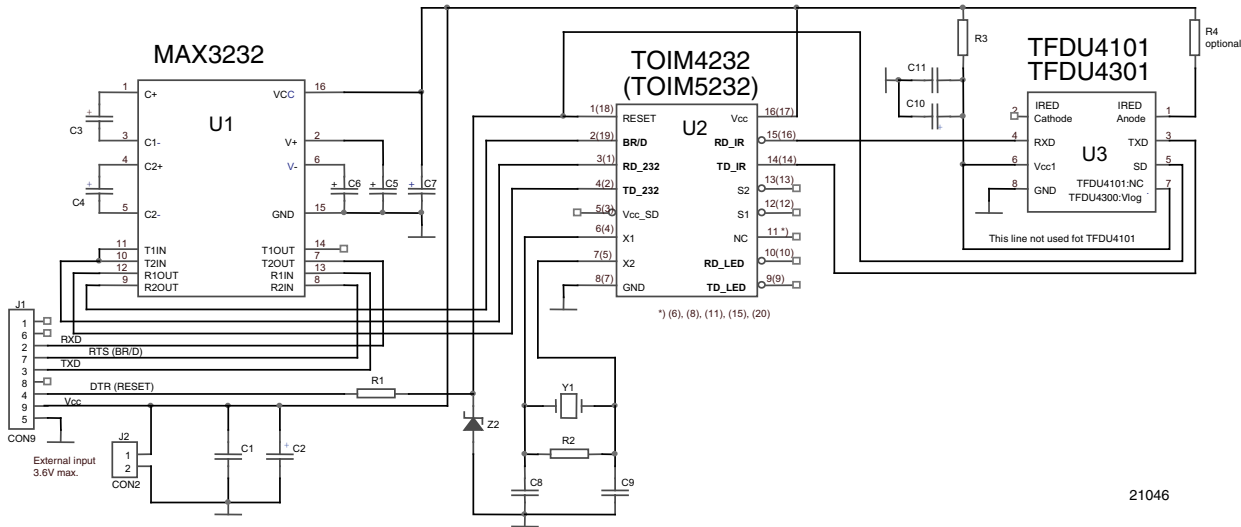
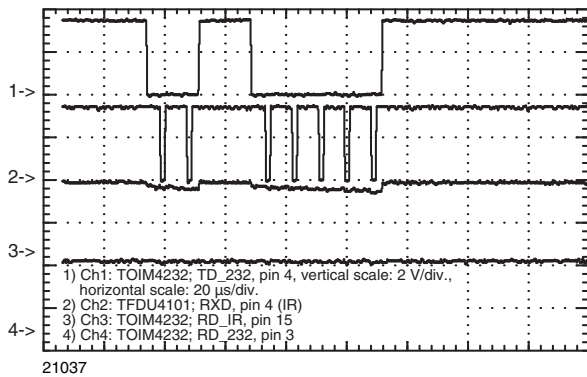

Fig. 1 - Circuit Diagram of the Demo Board
Fig. 11 - Echo-Suppression
Operation and programming of the TOIM4232 and TOIM5232 interface devices are described below. Figure 1 shows the basic circuit design with 3 blocks: the RS232 to 3 V logic level shifter, the encoder/decoder (endec) circuit and the transceiver to build a dongle for RS232 IrDA
Therefore, an add-on to the circuit shown in figure 1 was generated to suppress the echo from the receiver during transmission. This modification is shown in figure 10. During transmission, the signal from the RXD output of the transceiver is just gated by the transmit signal, (see the oscilloscope picture in figure 11).
*) For TOIM5232 pinning, see figure 1.
The oscilloscope diagrams are shown in figure 11. Channel 2 shows the echo signal on the RXD output of the TFDU4101 transceiver during transmission.